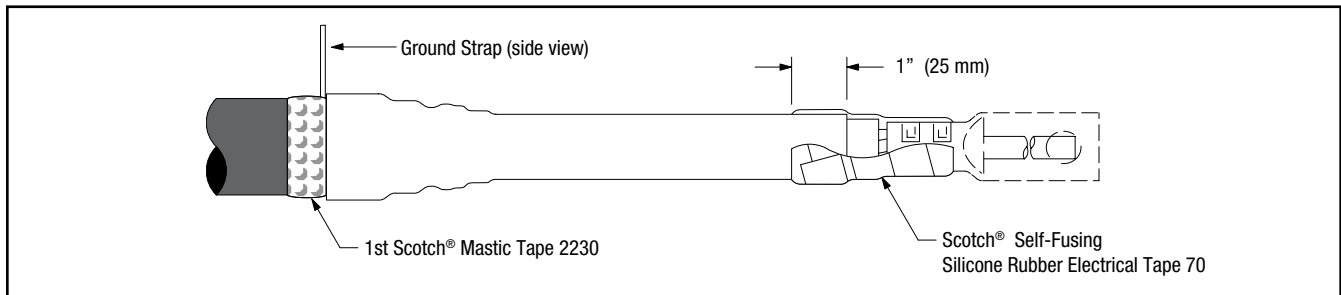

Figure 6
Apply 1 half-lapped layer of Scotch® Self-Fusing Silicone Rubber Electrical Tape 70 over at least 1/2" (13 mm) of lug barrel and onto the termination insulator for 1" (25 mm) (*Figure 6*).
- b. Bend the Ground Strap away from the cable jacket, towards the bottom of the installed termination body, to about a 90 degree angle. (*Figure 6*).
- c. Select a Scotch® Mastic Strip 2230 from kit and remove white release liners. Using light tension, apply a **SINGLE WRAP** of mastic around the cable jacket directly against the bottom of the termination body (*Figure 6*). Cut off excess.